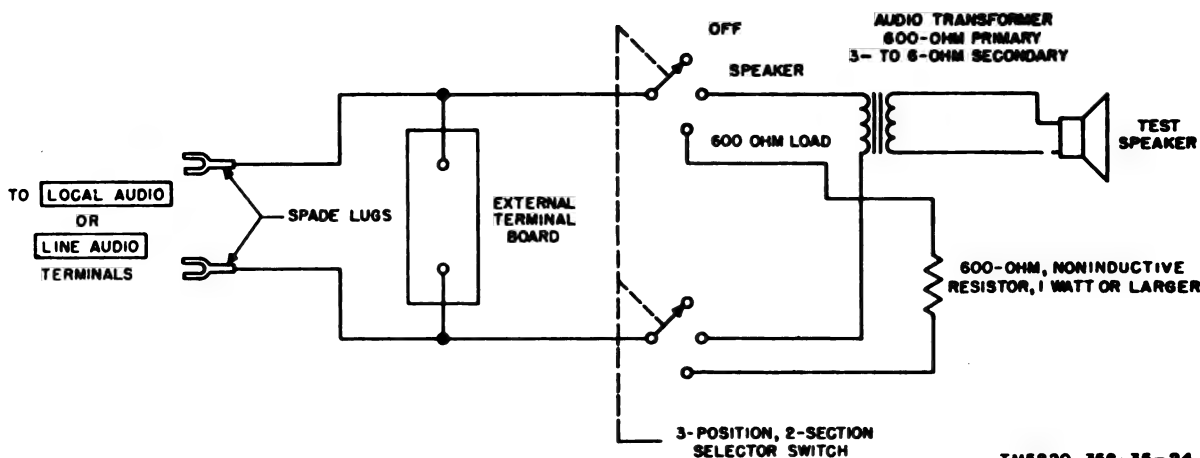

Figure 35. Test-speaker assembly fabrication.
c. A test-speaker assembly (fig. 35) is useful when testing or troubleshooting the